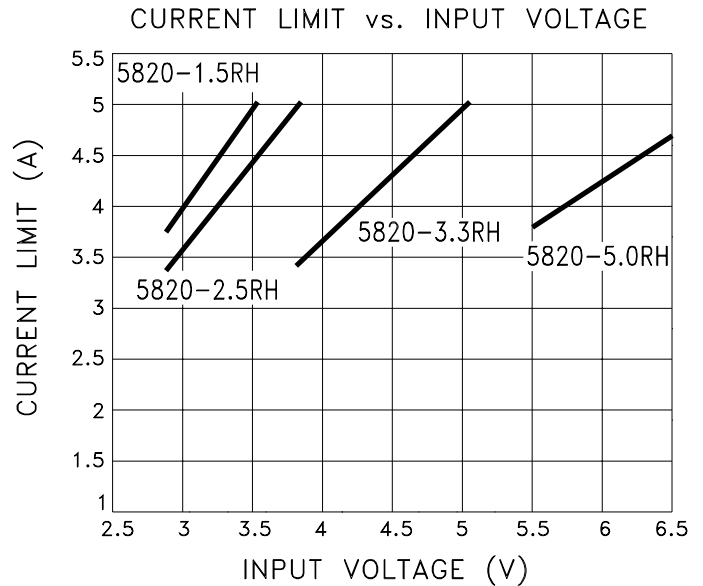

FIGURE 1
- ⑦ Output current limit is dependent upon the values of V_{IN} and V_{OUT}. See Figure 1 and typical performance curves.
- ⑧ Continuous operation at or above absolute maximum ratings may adversely effect the device performance and/or life cycle.
- ⑨ V_{IN} shall be as specified or V_{IN} min., whichever is greater.
- ⑩ Not applicable to versions where V_{IN} = V_{IN} Min.
- ⑪ Pre and post irradiation limits at 25°C, up to 300krad TID, are identical unless otherwise specified.
The MSK 5820RH current limit function is directly affected by the input and output voltages. Figure 1 illustrates the relationship between V_{IN} and I_{CL} for various output voltages. It is very important for the user to consult the SOA curve when using input voltages which result in current limit conditions beyond 4.5 Amps. When using input voltages which result in current limit above 4.5 Amps, the user must maintain output current within the SOA curve to avoid damage to the device. Note that 5 Amp maximum is due to current carrying capability of the internal wirebonds.